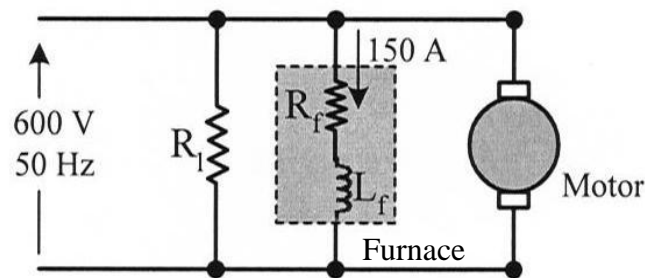

Fig. Q4.1
- a. The equivalent plant loads of an industrial client are illustrated in Fig. Q4.1. Lights, represented by R_1 , consume 12kW power. The electric furnace is an inductive load modelled as $(2.4 + j3.2)\Omega$. The motor consumes 80kW power at 0.8 lagging power factor.